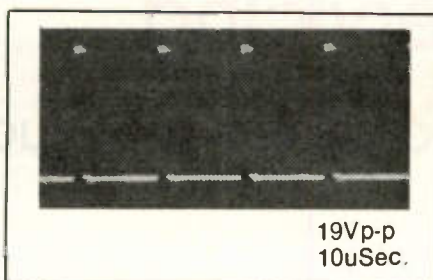

Figure 4
- Pin 10, IC111 should have a square wave with 14.5Vp-p. (See Figure 4).